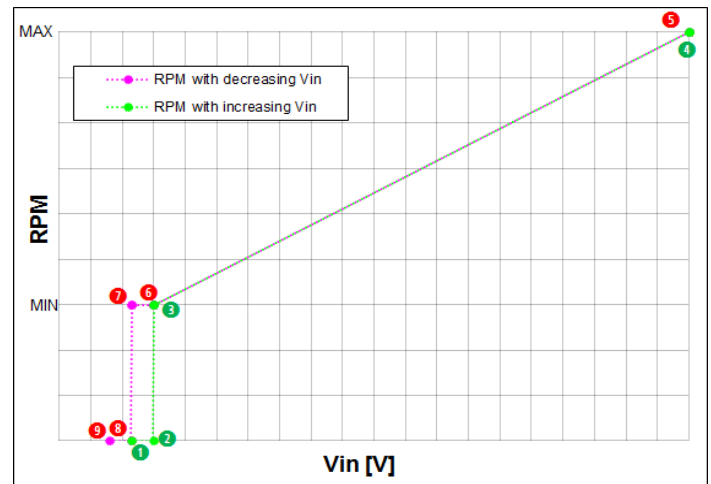

Figure 1
2.5.2 External analog input 0-10V [⑦⑧]
An external analog signal 0-10V, applied to terminals ⑦ and ⑧, controls the circulator speed in a range from 0 to 100%, following a linear function as depicted in Figure 1.
In the below table a description of the milestones shown in Figure 1.